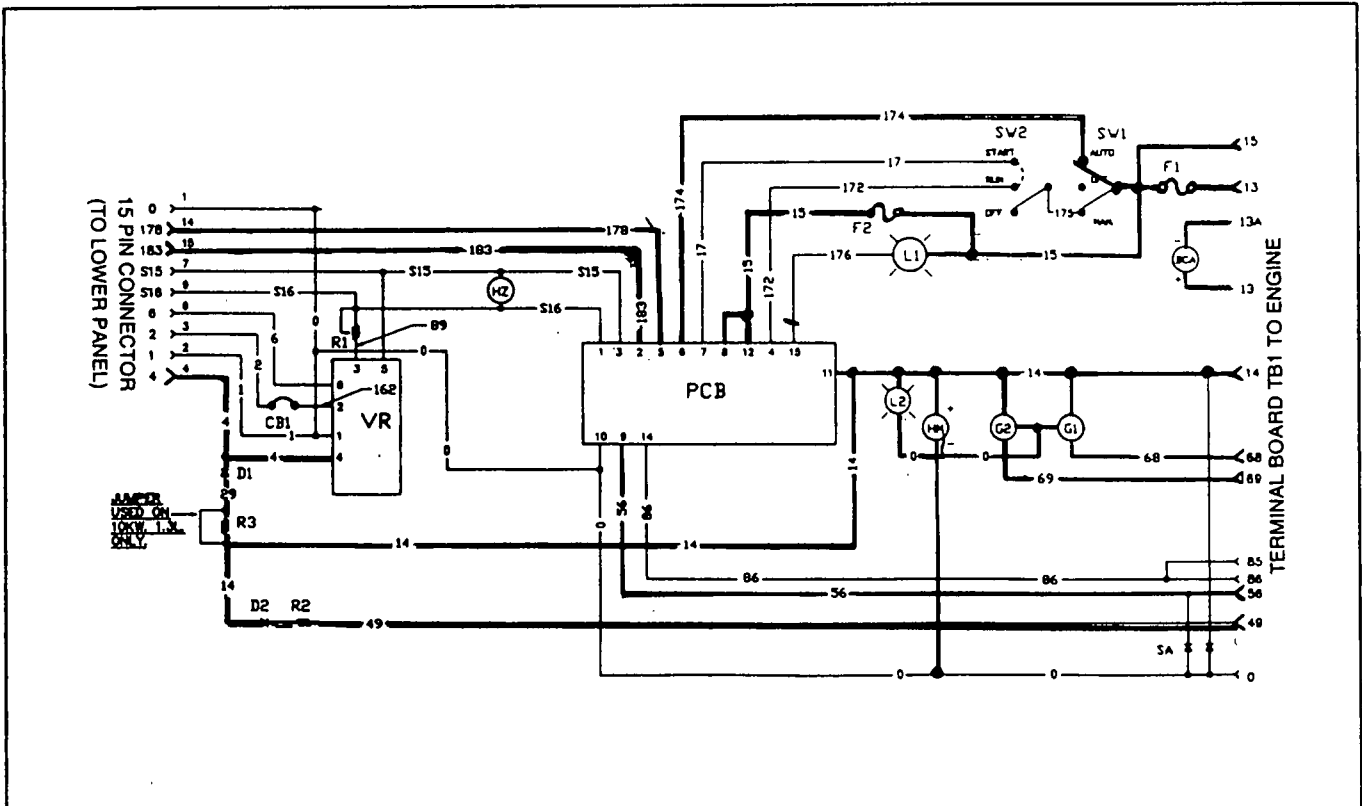

Figure 4. Circuit Condition- Automatic Cranking
See Figure 4. If the generator is installed in conjunction with an automatic transfer switch (such as the "GTS" type transfer switch), the engine can crank and start automatically. The auto-manual-off switch must be set to "Auto" and battery voltage must be available to the DC control/latch- crank board, via Wire No. 174. Such automatic startup normally occurs when transfer switch action closes the Wires No. 178/183 circuit (see Parts 10 and 11 of this manual). With the Wires 178/183 circuit completed, DC control/latch- crank board action will energize the crank relay (K1) for about 5.4 seconds. The crank relay will then be de-energized for about 5.4 seconds, energize again, and so on. The cyclic cranking action that results will continue until the engine starts or until eight (8) crank-rest cycles have been used up. If the engine has not started in eight (8) crank-rest cycles, cranking will terminate and the fault indicator lamp will turn on (overcrank condition).